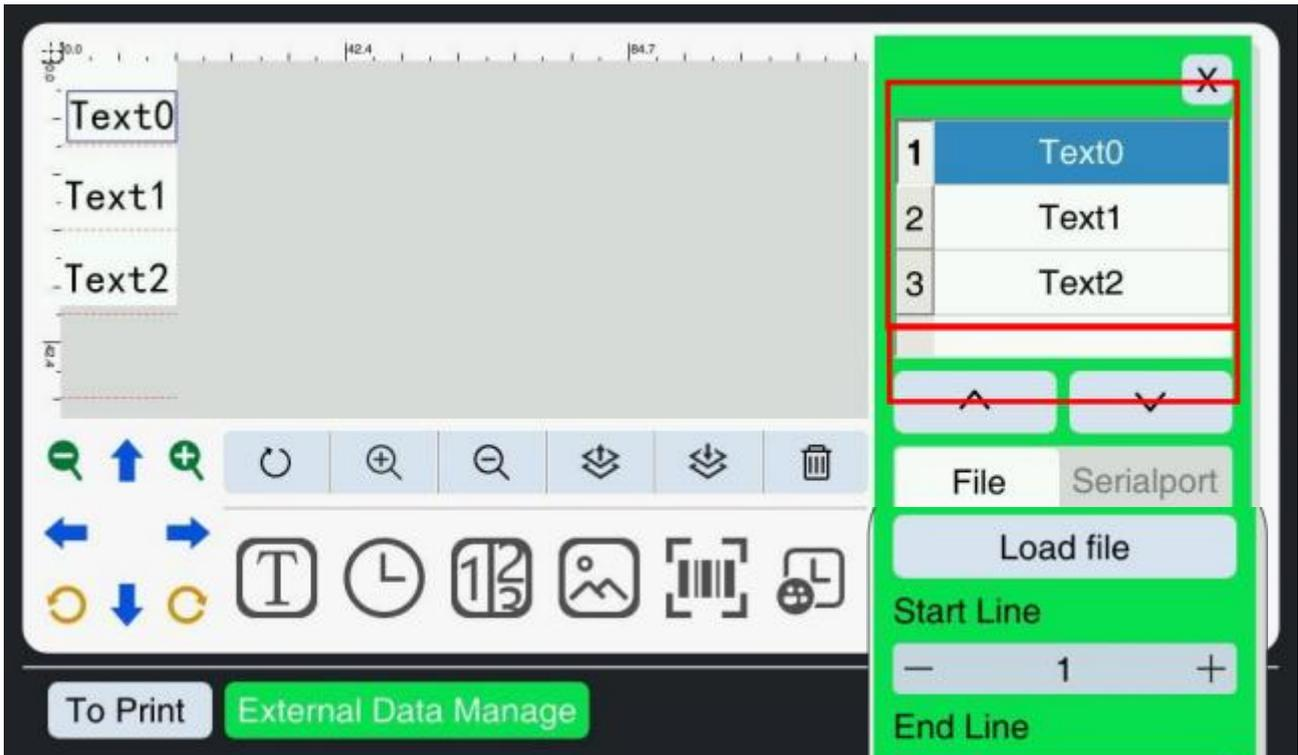

Figure 5-12 External Data Management
the external data management interface. As shown in Figure 5-12.
4. Load one line at a time and print until the end of the file. In the interface shown in Figure 5-12, set the "Start Line", "End Line", "Current Line" to be printed, and select "Stop" printing or "Repeat" printing after the job is completed.